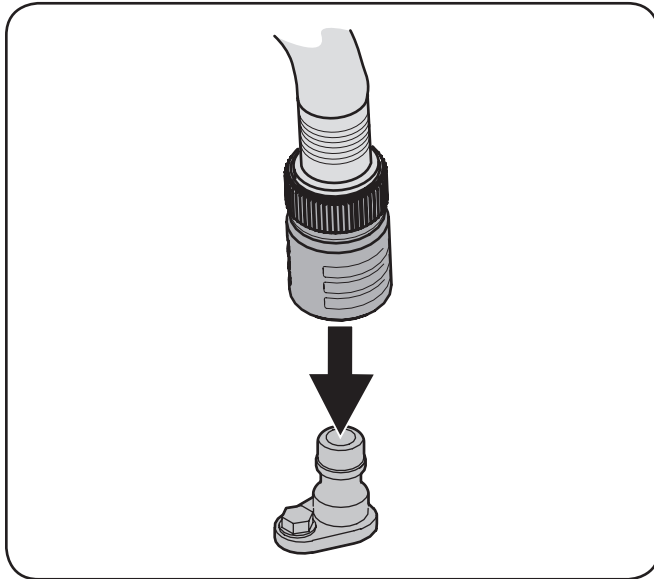

Figure 6-2
- Attach the hose coupler to the water port on the left of your deck surface. See Figure 6-2.